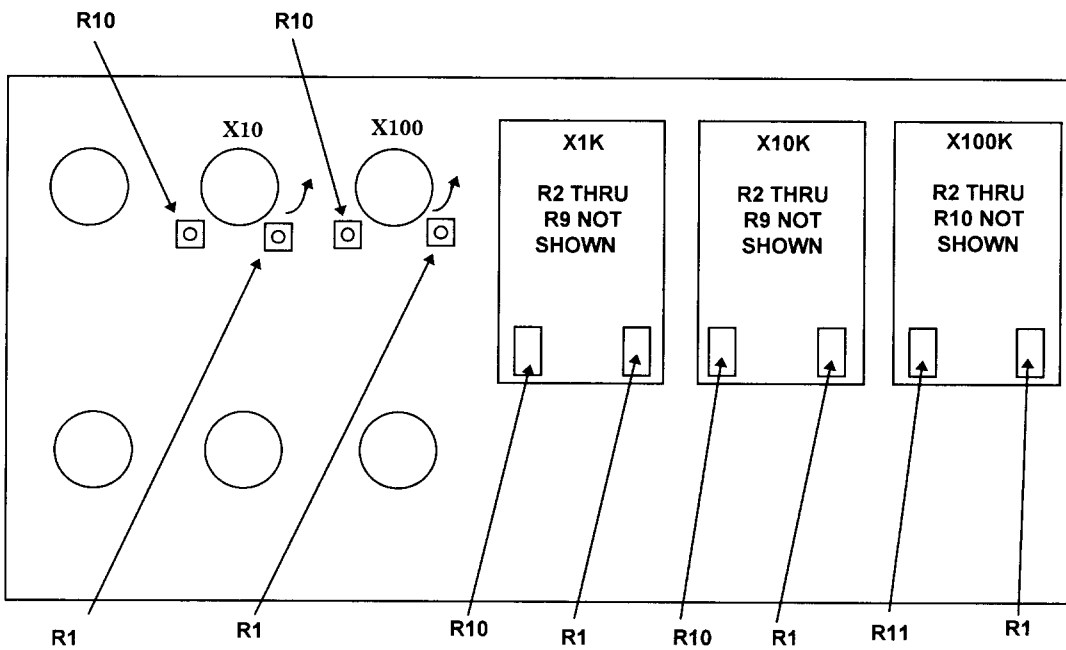

Figure 1. Test instrument - bottom internal view.
**b. Adjustments.** Adjust X10 R1 (fig. 1) for a 10.010Ω multimeter indication (R).
**b. Adjustments.** Adjust X100 R1 (fig. 1) for a 100.010Ω multimeter indication (R).
**b. Adjustments.** Adjust X1K R1 (fig. 1) for a 1.000010 kΩ indication on multimeter (R).
**b. Adjustments.** Adjust resistor X10K R1 (fig. 1) for a 10.000010 kΩ multimeter indication (R).
**b. Adjustments.** Adjust X100K R1 (fig. 1) for a 100.000010 kΩ multimeter indication (R).